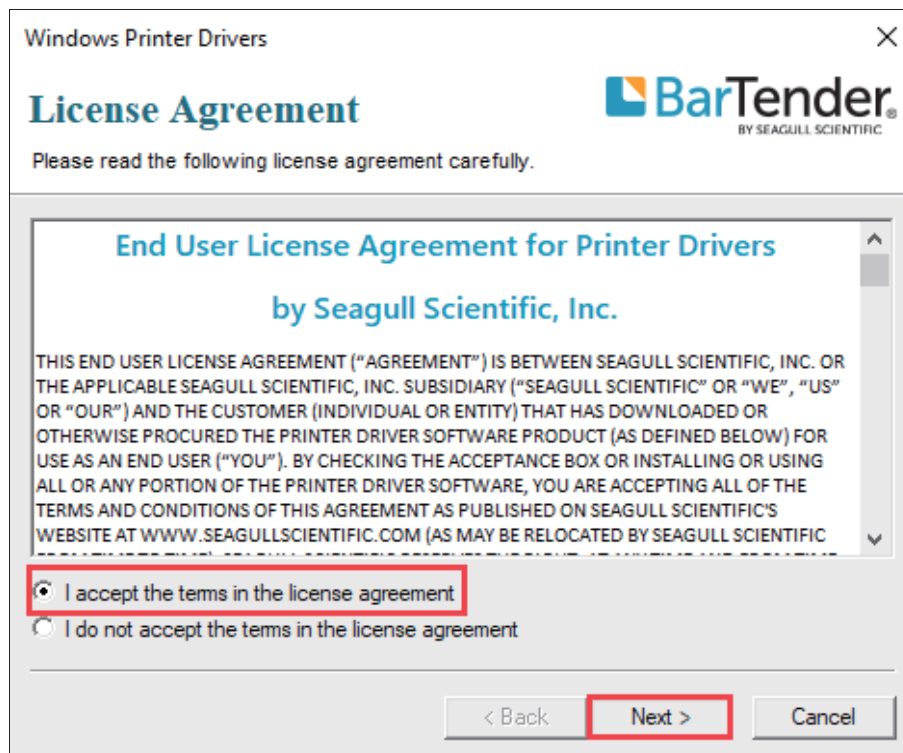

Figure 2-27 License Agreement Screen
3. Double-click the printer driver icon to bring up the “License Agreement” screen. Select “I accept the Items in the license agreement” and click “Next”, as shown in Figure 2-27.